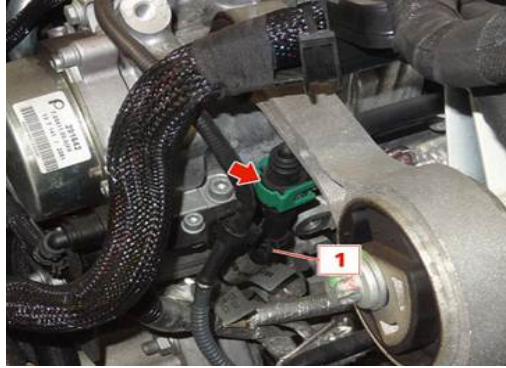

Fig.12
7. In the engine compartment, remove the engine cover, release the safety and disconnect the fuel delivery line, then unclip the fastening clamp. (1 in Fig.12)